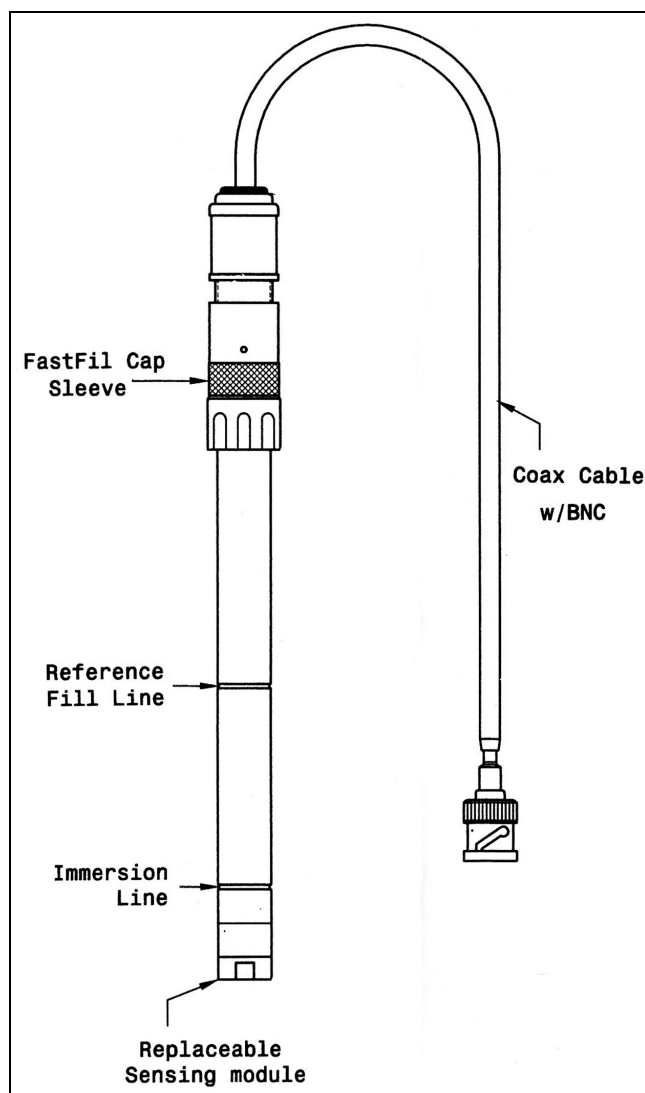

Figure 1: AC020 NH_4^+ Ion Selective Electrode
- b. Fill the reference chamber with the Reference Fill Solution provided above the reference fill line on the electrode (see Figure 1)
Periodically check the Reference Fill Solution level in the reference chamber. The solution level must be above than the reference fill line (see Figure 1)